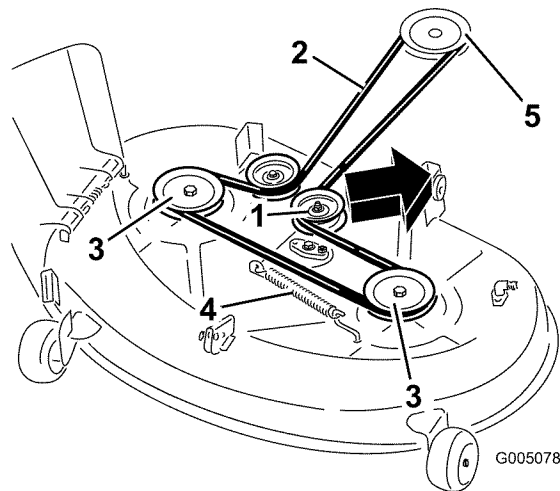

Figure 47
- 5. Pull the idler pulley in the direction shown in Figure 47 and roll the belt off of the pulleys.
- 6. Route the new belt around the engine pulley and mower pulleys (Figure 47).
- 7. Pull the idler pulley in the direction shown in Figure 47 and route the belt onto the idler pulley (Figure 47).